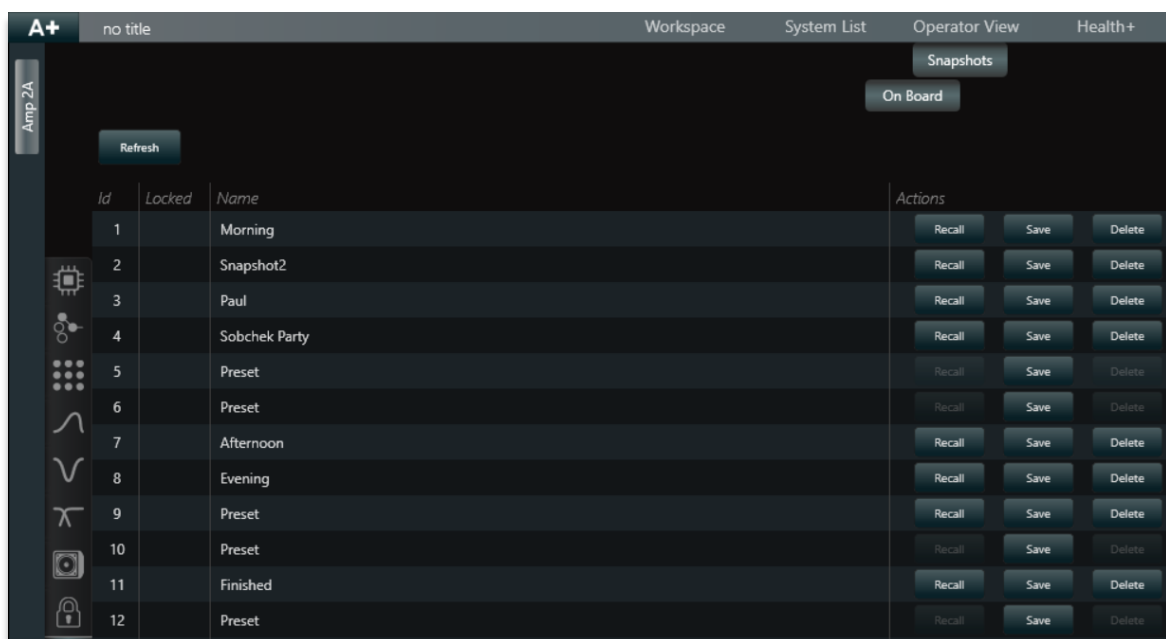

Figure 15 – Screenshot of Armonía Plus Software On-Board Memory page.
- (Figure 15) is a screen shot of Armonía Plus showing the existing Snapshots on the amplifier.